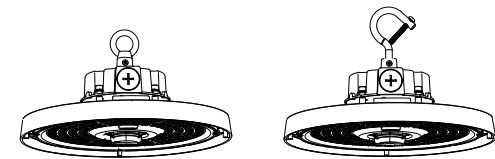

FIGURE 2
- Step 2 .Hang the fixture on the ceiling hook or chain. (figure 2)